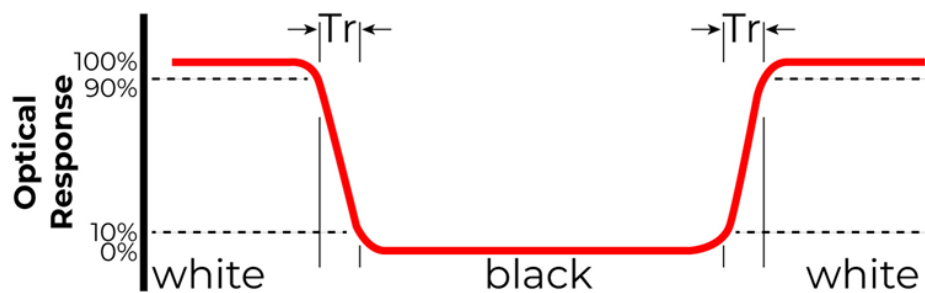

Figure 1. The definition of response time
**Note 4.** Response time is the time required for the display to transition from white to black (Rise Time, Tr) and from black to white (Decay Time, Tf). For additional information see Figure 1. The test equipment is BM-7A.